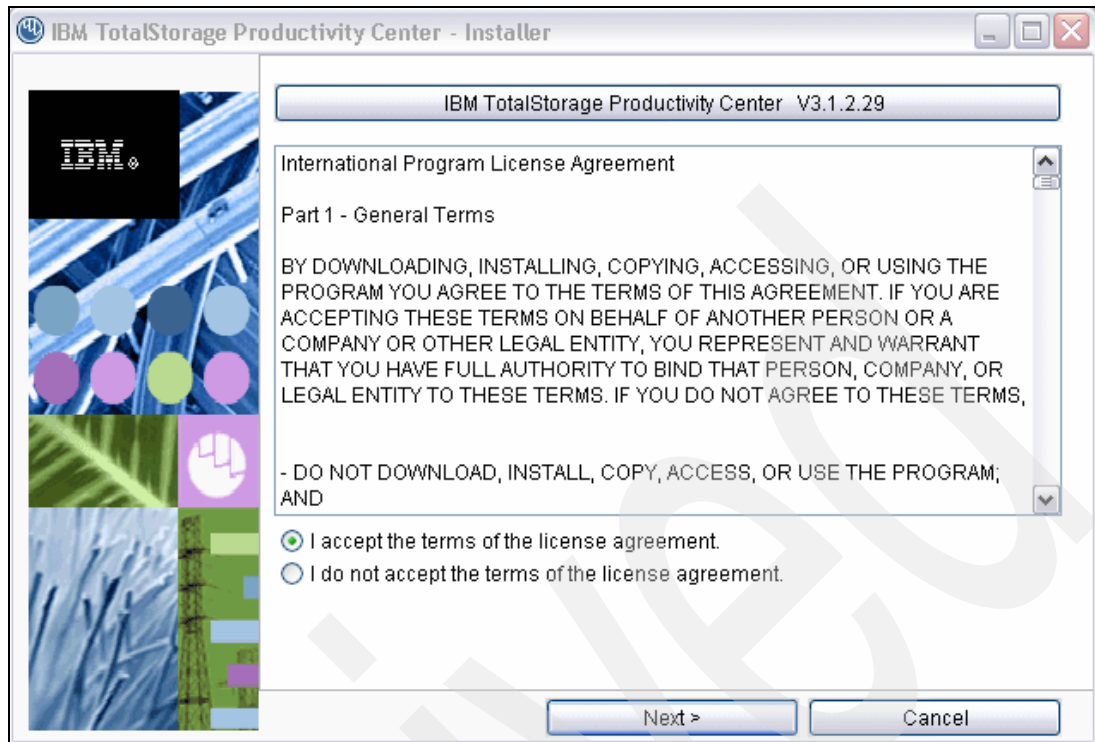

Figure 6-30 Accept the license agreement
3. Accept the license agreement (see Figure 6-30 on page 256) and click **Next** to continue.